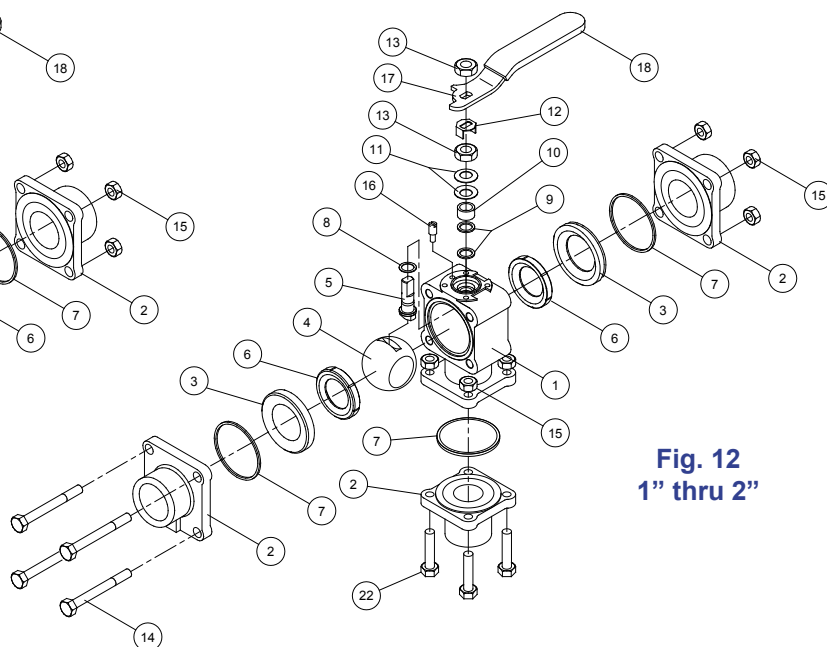

Fig. 13
12.2 Figures 13, 14 & 15 show flanged style assemblies and figures 11 & 12 represent all other end connection styles.